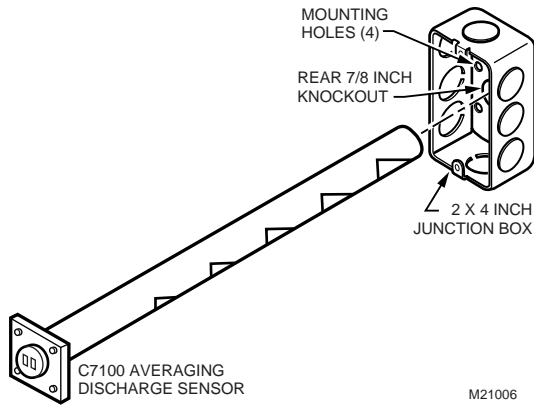

Fig. 3. C7100 junction box mounting.
**Junction Box Mounting (See Fig. 3)**